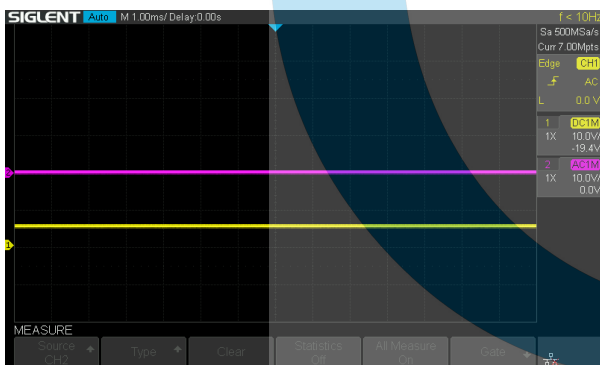

Figure 5 - No pulse train outputs
2. Two flat traces (no pulses) (Figure 5):